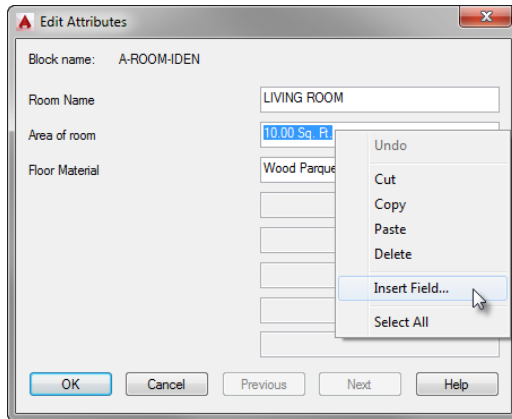

FIGURE 9.25: Inserting a field as an attribute
7. Press the Tab key to highlight the Area Of Room box, right-click, and choose Insert Field from the context menu, as shown in Figure 9.25.